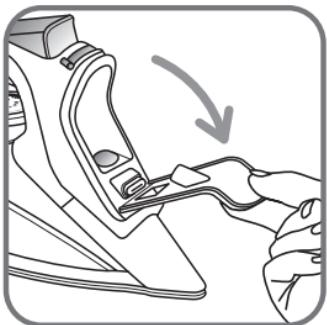
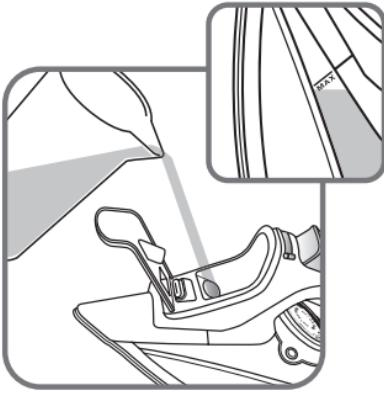

fig.3
fig.4
- Open the filling inlet fig.3. Fill in water up to the Max. mark. fig.4. Close the filling inlet and return the iron to the horizontal position.